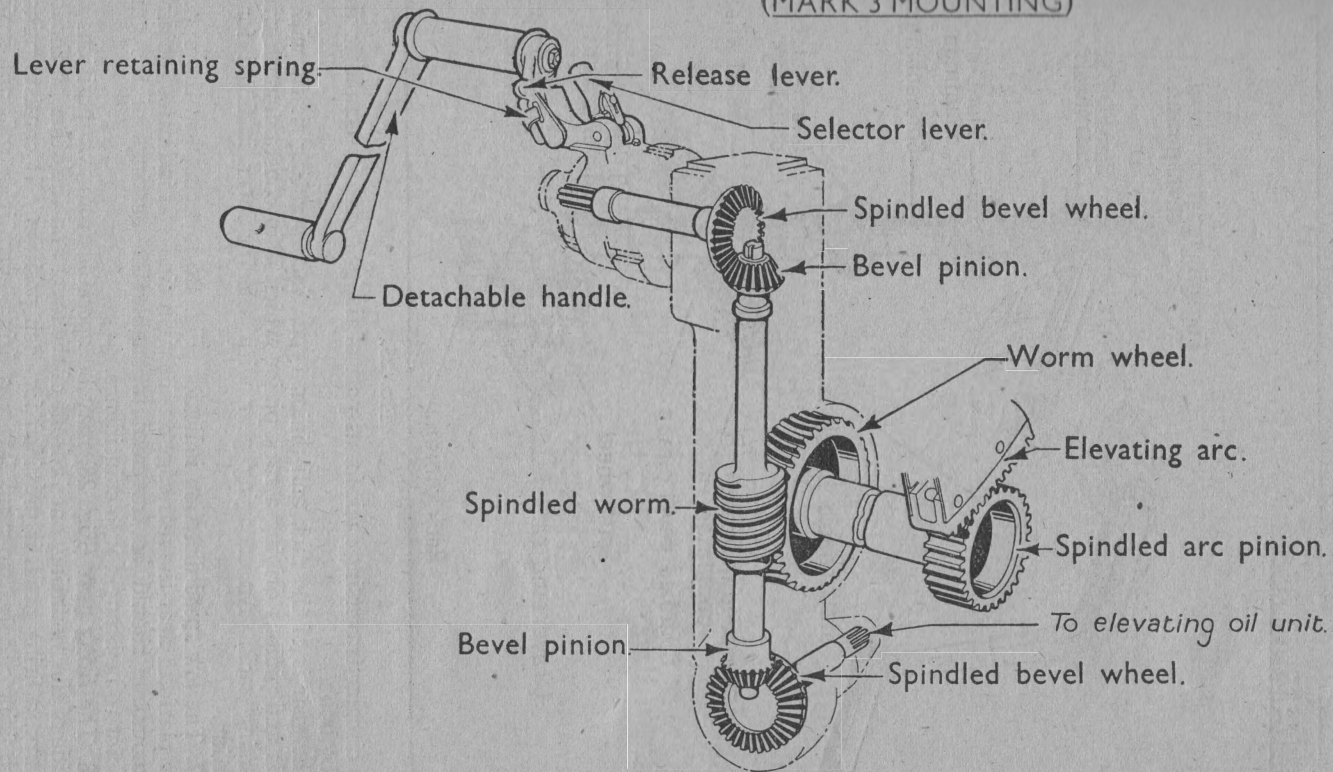

FIG. 24.
**45.** The **elevating gear** (Fig. 24) is situated on the left side of the mounting. It can be operated either by power or by hand through the medium of a cranked handle. The elevating oil unit (motor) for power operation is fitted on the left side of the platform frame.